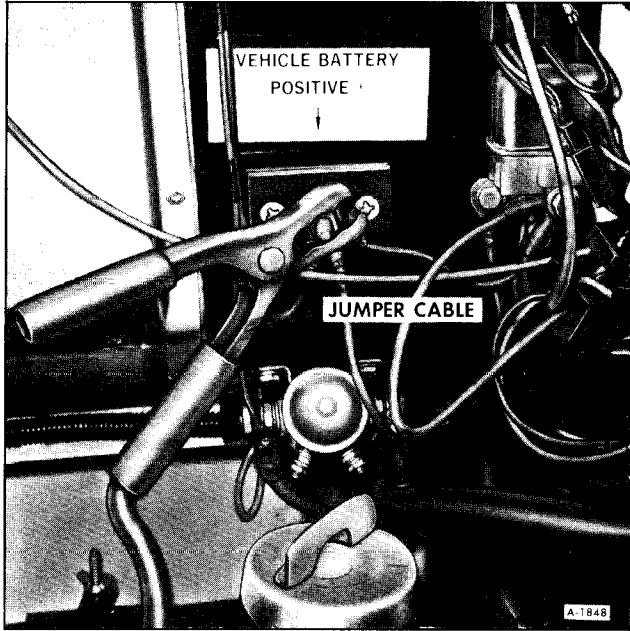

Figure 9—Connecting Jumper Cable to "Vehicle Battery Positive" Stud
3. Attach one end of one jumper cable to the positive terminal of the booster battery (identified by a red color "+" or "P" on the battery case, post or clamp) and the other end of same cable to positive terminal junction block stud NUT, marked "VEHICLE BATTERY POSITIVE." This is located behind the right access door above the batteries. Do NOT permit vehicles to touch each other, as this could establish a ground connection and counteract the benefits of this procedure. (figure 9)